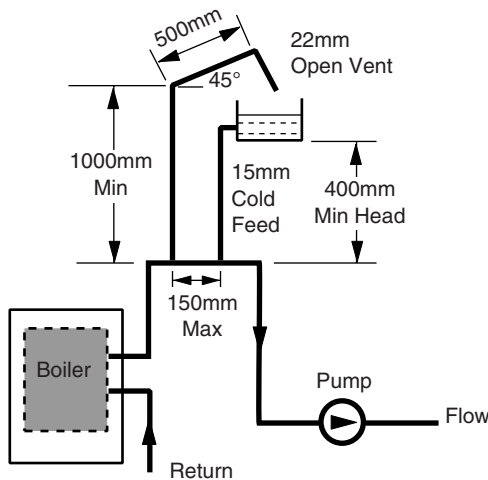

Fig. 6 Typical Low Head Installation
1. Using a close coupled arrangement the minimum head is as shown in the diagrams (Figs. 6 & 7) subject to the following conditions: